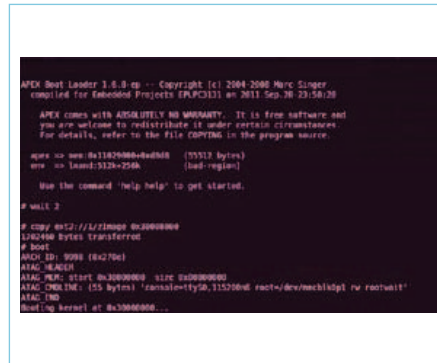

Figure 7. The APEX bootloader.
- The firmware (the APEX bootloader) initialises the external SDRAM and copies the kernel from the SD card into the SDRAM (see **Figure 7**).